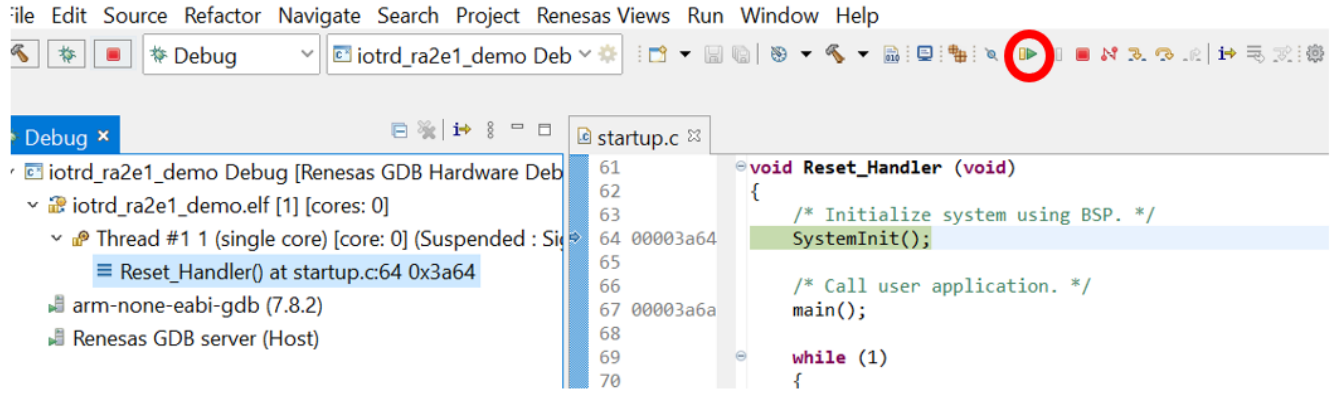

Figure 8. Application Startup Window
- When completed, click **Resume** twice to start the application (see Figure 8).